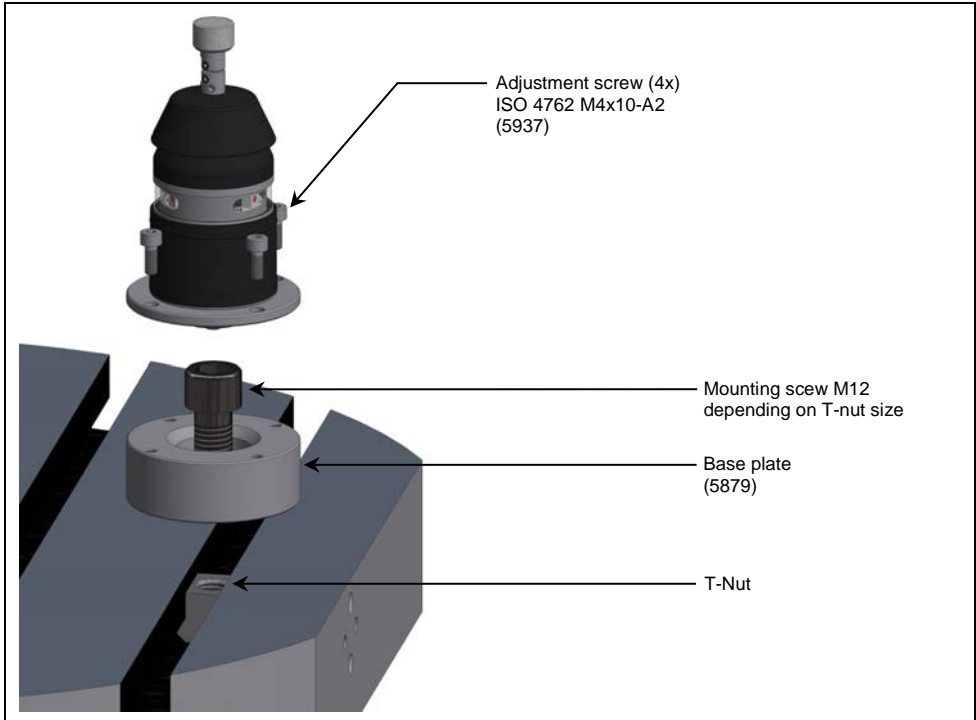

Fig. 15 Mounting with Base Plate
1. Unscrew the 4 adjustment screws (Fig. 15) to separate the Tool Setter from the base plate.
2. Mount the base plate to the machine table using the mounting screw (Fig. 15) and a T-nut.
3. Mount the Tool Setter on the base plate again by screwing in the 4 adjustment screws (Fig. 15).